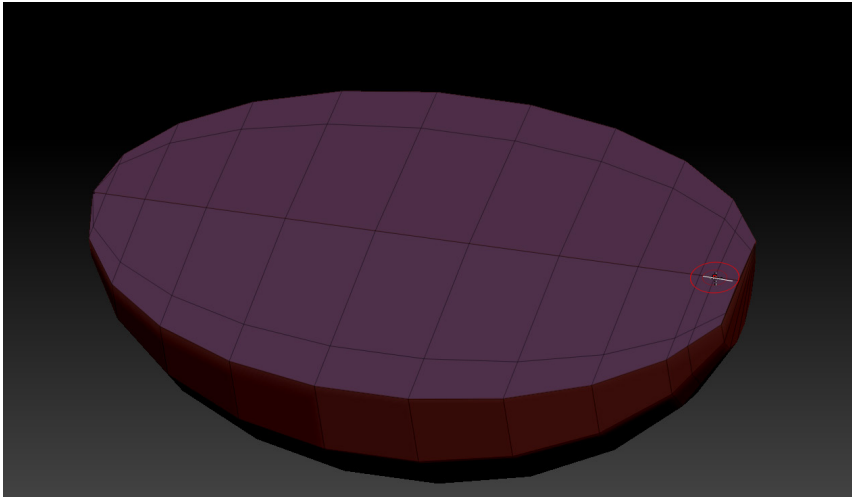

Figure 3-115 The edge loop created
5. Click on the bottom center of the edge; an edge loop is created, as shown in Figure 3-115.